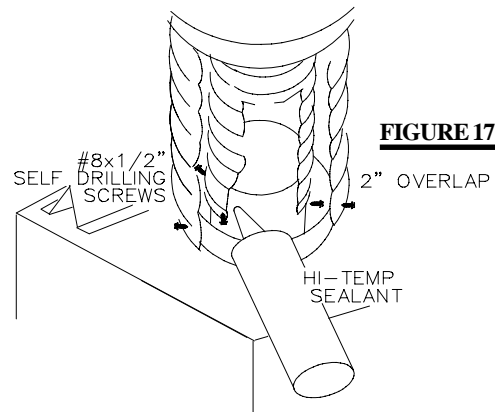

FIGURE 17
1. Install the 4 inch diameter aluminum flexible liner to the fireplace. Secure with 3 screws and flat washers. Seal the joint and screw holes using the high temperature sealant provided. **FIGURE 17.**